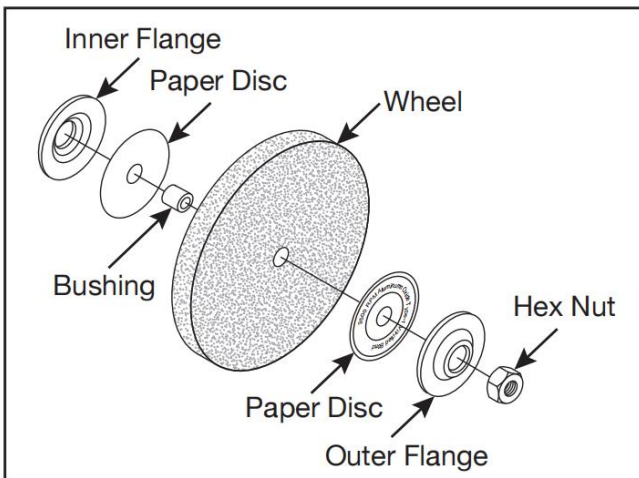

Figure 16. Assembly order for wheel installation.
5. Remove outer wheel flange and paper disc (see **Figure 16**) .
6. Remove grinding wheel and bushing from spindle (see **Figure 16**). Take note of paper or fiber disc between wheel flanges and wheel. These cushion the pressure of the wheel flanges and help distribute pressure more evenly. They also help reduce damage to the flanges.
8. Mount new grinding wheel and bushing in order shown in **Figure 16**. Tighten M6-1 hex nut snugly but do not over-tighten. Over-tightening can stress and crack wheel.